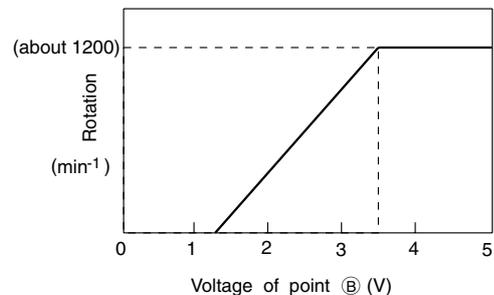

Fig. 6-3
- This pulse changes to analog voltage by R751 and C751 and it is applied to the fan motor as instruction voltage number of rotations. The relationship between the voltage of point ①B and number of rotations becomes as shown in Fig.6-3. (The gap may arise depending on the condition of unit.)
- The feedback pulse of number of rotation is outputted from the fan motor and input to micro computer pin ①⑭. The frequency of this pulse is 12/60 of the number of rotations. (Ex: $1000\text{min}^{-1} \times 12/60 = 200\text{Hz}$) The micro computer observes this frequency and to make it as the instruction number of rotation all the time, adjusts the output pulse width of pin ④⑩.